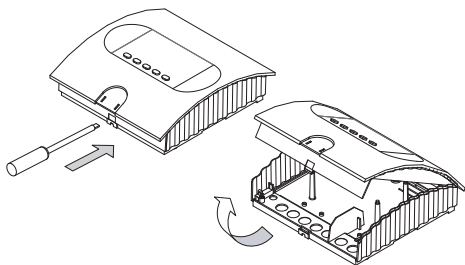

Fig. 1
1. Remove the cover of the power element by pushing the retaining tang to the inside with a flat screwdriver and pull the housing top upwards in a swinging fashion (Fig. 1).